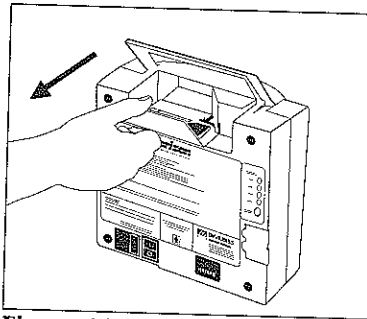

Figure 11
2. Slide the grill to the rear of the unit releasing it from the hinge **Figure 11**.